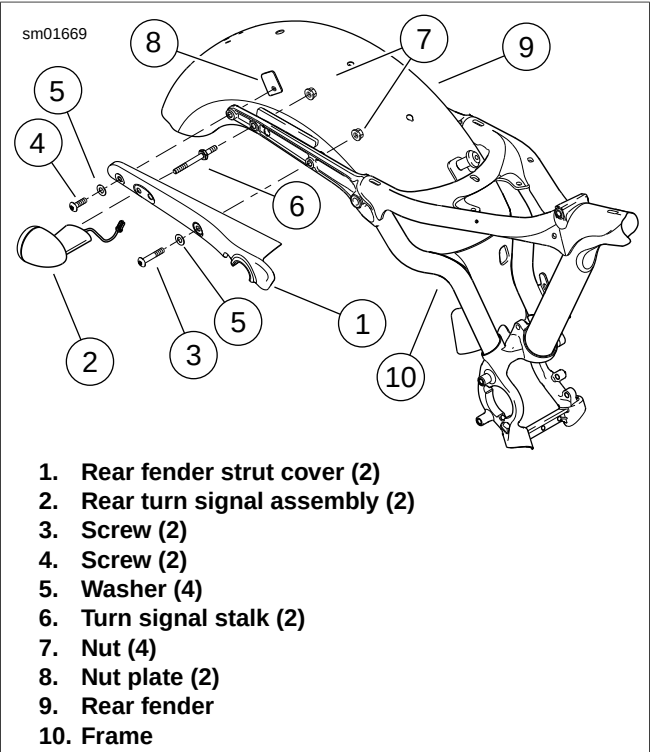
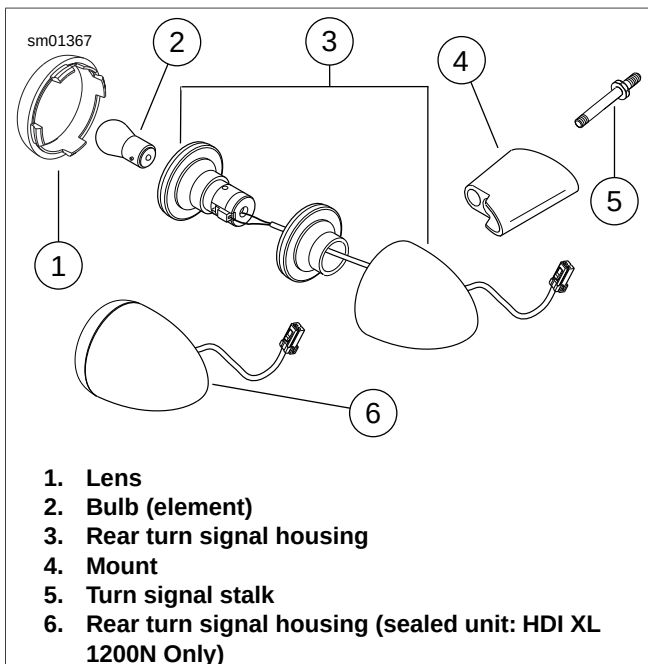

Figure 6-76. Rear Fender Mounting Components: Typical
Figure 6-77. Rear Turn Signal Components
1. See Figure 6-76. Remove screws (3, 4), washers (5), nuts (7) and nut plate (8). Remove rear fender strut covers (1) with attached turn signal assemblies (2) from rear fender struts. Carefully feed turn signal harnesses through holes in fender and fender struts as you remove the strut cover and turn signal assembly.
3. See Figure 6-77. Unscrew and remove turn signal stalk (5) and fender strut cover from each turn signal assembly. Mount (4) will separate from turn signal housing (3).
- See Figure 6-77. Install each turn signal housing (3) and mount (4) to rear fender strut cover (item 1, Figure 6-76) with turn signal stalk (5). Tighten to 96-156 **in-lbs** (10.9-17.6 Nm).
- See Figure 6-76. Thread nut (7) onto turn signal stalk (6) from inside fender. Finger-tighten nut only at this time.
- Secure fender to each fender strut with screw (3), washer (5) and nut (7) in fender mounting hole. Install screw (4), washer and nut plate (8) in aft mounting hole. Finger-tighten screws only at this time.